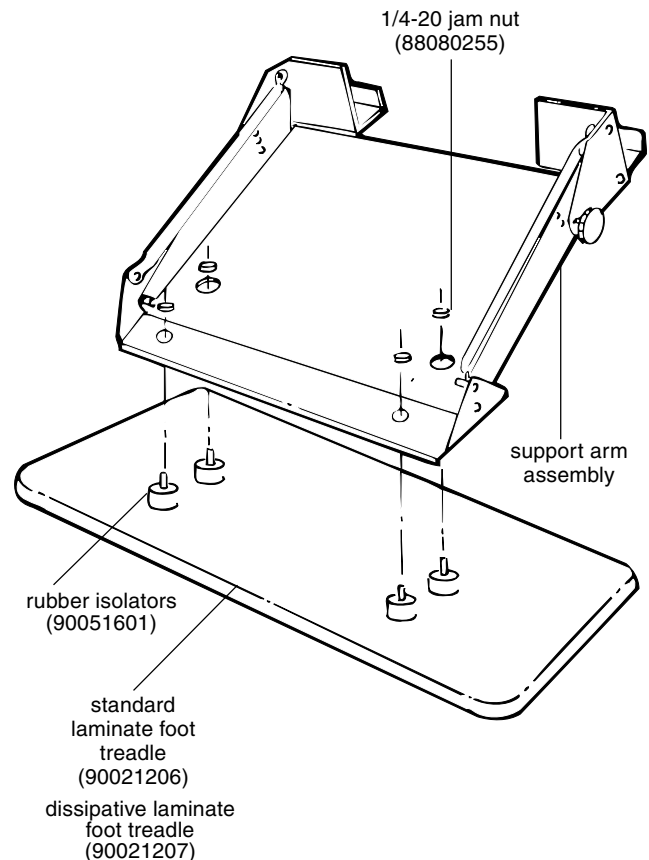

Figure 2
4. Turn foot treadle 180° so edge of treadle is 1-1/2" from edge of support arm. (Figure 2)